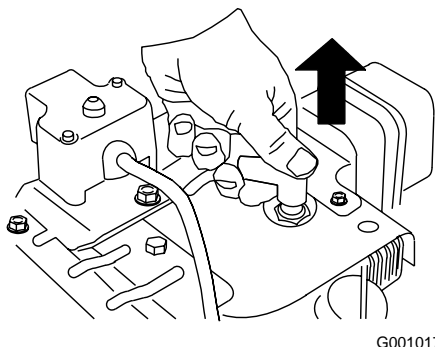

Figure 41
3. Disconnect the spark plug wire (Figure 41).